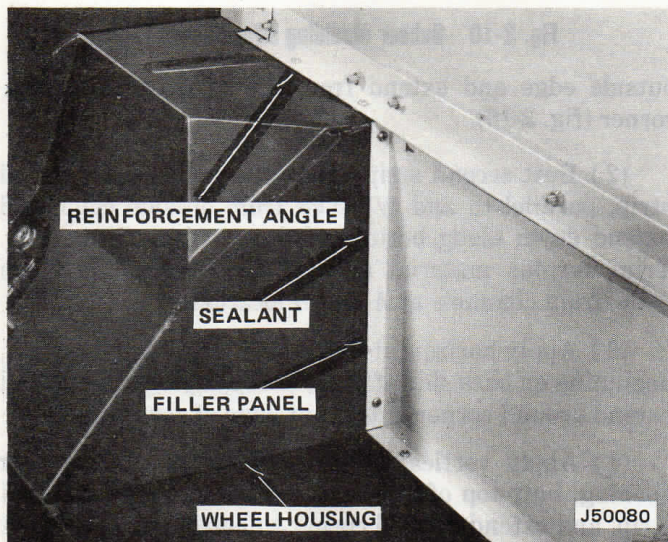

Fig. 2-12 Filler Panel and Reinforcement Angle Installed
(1) Temporarily position filler panel and reinforcement angle (fig. 2-12). Use panel and angle as templates and centerpunch hole locations on top and sides of wheelhousings and on floor.
(2) Remove reinforcement angle and filler panel. Drill 5/32-inch holes in locations previously marked.
(3) Apply strip of sealant on top of each wheelhousing, locating it between drilled holes and rear panel. Apply second strip directly on top of first strip.
(4) Apply single strip of sealant on sides of wheelhousings and across floor, positioning it just behind drilled holes.
(5) Position filler panel in vehicle. Be careful not to disturb sealant and attach panel to wheelhousings and floor with pan-head, self-tapping screws.
(6) Install reinforcement angle and attach to wheelhousings with pan-head, self-tapping screws.
(7) Use holes in lower edge of rear panel as guides and drill 9/32-inch holes through filler panel and reinforcement angle. Fasten with bolts and locknuts.